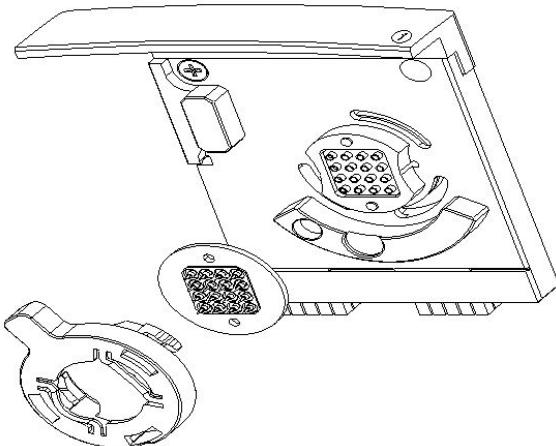

Figure 3 Bayonet cover and pin set
- 5 Remove the cover of the bayonet socket by gently pulling the plastic lever. The pin set may stick to the electrode base. Remove it by carefully pulling it off, see Figure 3 on page 129.
- 10 Place the pin set on the cartridge base and the bayonet cover over the pin set, see Figure 3 on page 129.